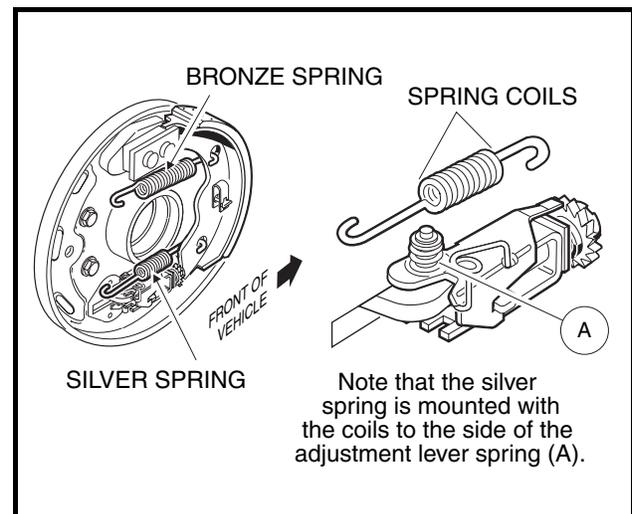

Figure 6-14 Spring Orientation
3. Attach the springs onto the trailing shoe already installed. Hold the leading shoe next to the trailing shoe, correctly oriented, and attach the springs to it (**Figure 6-14, Page 6-6**).